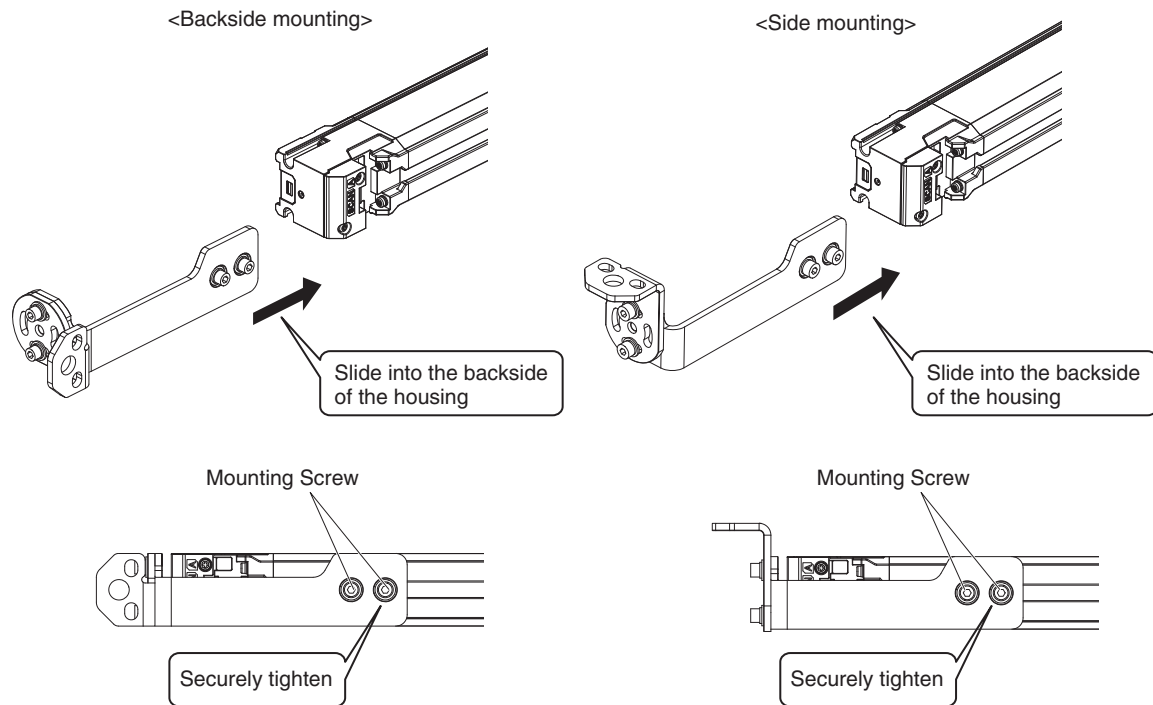

Fig. 2
2. Slide the Top/Bottom Bracket (1) in the grooves of the sensor housing. Adjust the Top/Bottom Bracket to the mounting position of the wall surface. Make sure to contact the whole body of the Top/Bottom Bracket (1) with the groove of the yellow area of the housing. Securely tighten the Mounting Screws to fix the Top/Bottom Bracket to the housing of the sensor. The recommended torque to tighten the Mounting Screws of the Top/Bottom Bracket is 3.0 N•m. (Fig. 2)